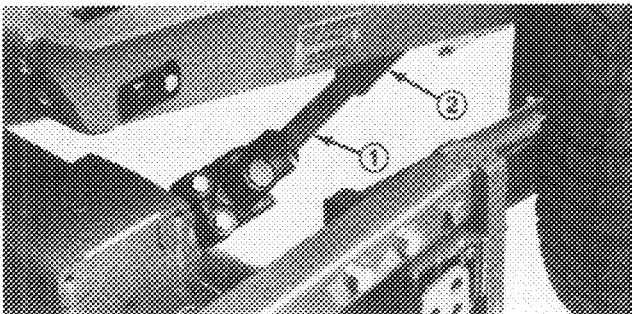

Figure 17
3. Lower cutting unit, remove pins (4) from height-of-cut brackets (Fig. 17).
5. Stop engine and slide cutting unit away from traction unit and frame separating male and female section of PTO shaft (Fig. 17).